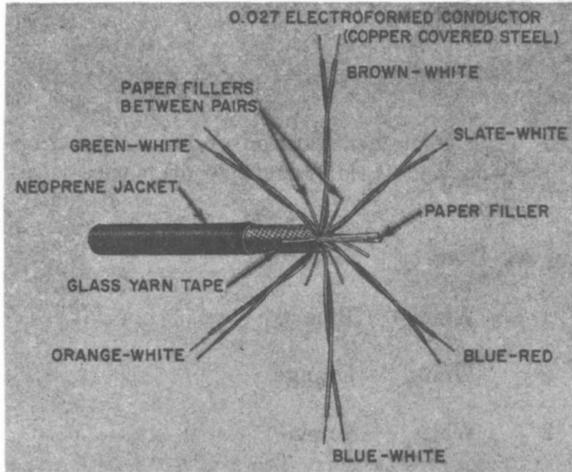

Fig. 2—C Multiple Drop Wire (MD)
2.04 Figure 2 illustrates the makeup of C multiple drop wire of later manufacture.